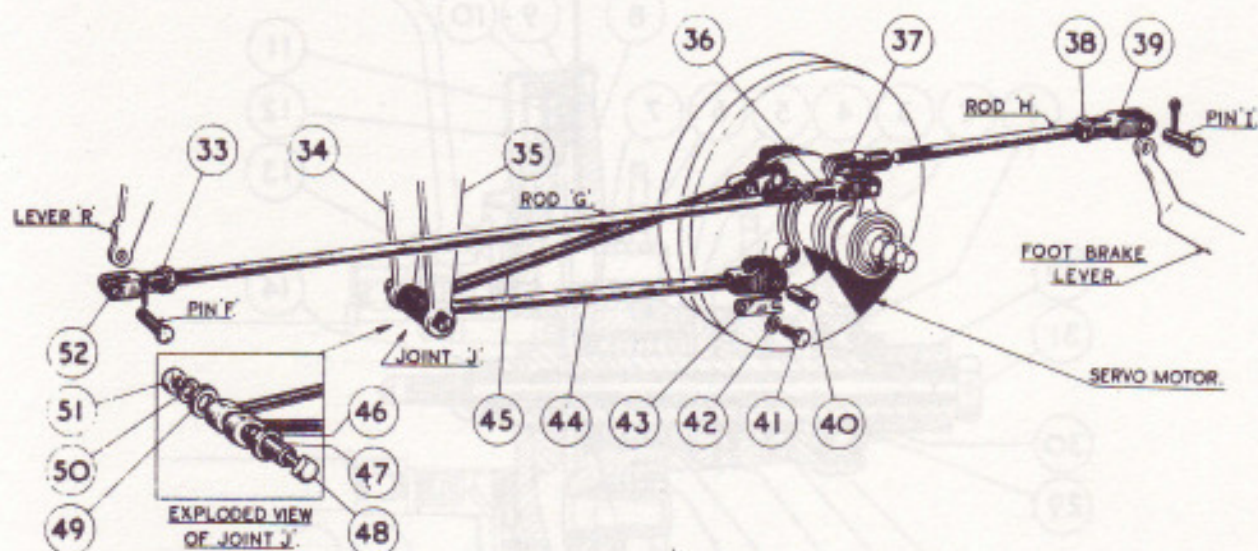
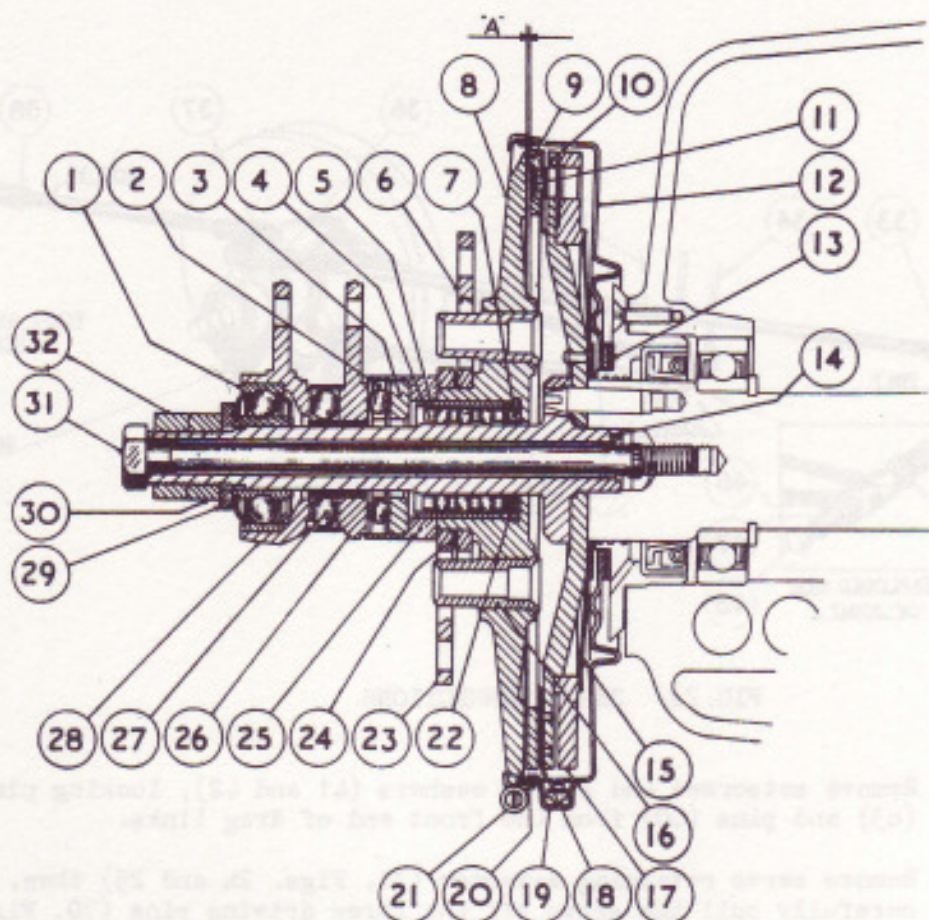
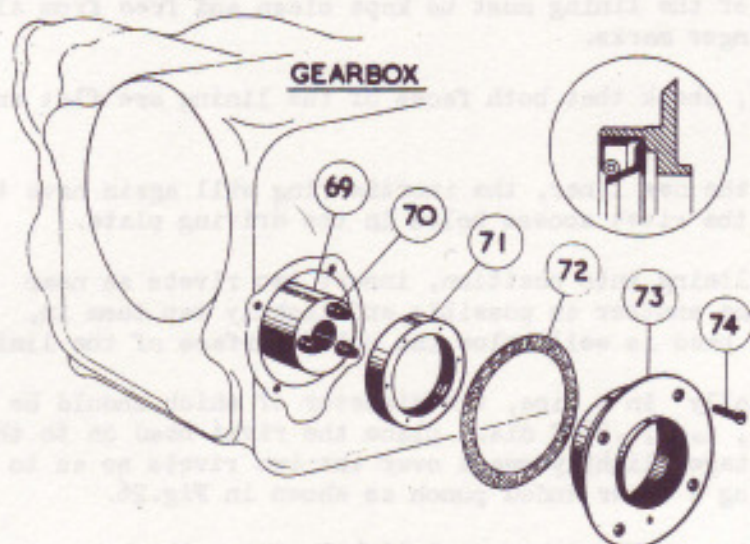

FIG. 22. SERVO CONNECTIONS.
FIG. 24. SECTION THROUGH SERVO.
FIG. 27. OIL SEAL AND HOUSING "EXPLODED" FROM THE GEARBOX. INSET, THE OIL SEAL IS SHOWN CORRECTLY ASSEMBLED TO THE HOUSING.
- (ii) Check for tightness locknut (38, Fig.22). Remove pin from jaw (39), and without disturbing position of jaw, screw out pull rod 'H' from jaw (37).
- (iii) Check for tightness locknut (33). Remove pin from jaw (52), and without disturbing position of jaw, screw out pull rod "G" from jaw (36).
- (iv) Remove bolt (48) from joint 'J' (see "Exploded view of joint 'J' on Fig.22), in order to release the rear end of drag links (44) and (45). This will allow servo to be rotated to the most advantageous position for uncoupling the front end of the drag links from the two inner servo levers, as follows:-
- (v) Remove setscrews and spring washers (41 and 42), locking plates (43) and pins (40) from the front end of drag links.
- (vi) Remove servo retaining setscrew (31, Figs. 24 and 25) then, carefully pull the servo off the three driving pins (70, Fig. 27), taking care not to damage phosphor-bronze spring plate (12), against the chassis cross member.
NOTE: No further dismantling of the driving plate sub-assembly should be required beyond the removal of the Ferodo friction lining. The nine small rivets securing the Belleville washer (15, Fig. 24) to the driving plate (10) must not be disturbed. Should the driving plate be accidentally dropped or bumped during the dismantling or erecting of the servo, the Belleville washer retaining the inertia ring (17) may spring back thus taking the load off the ring. This must be corrected by pressing with four fingers around the circumference of the washer until it snaps back into position against the inertia ring.
In the event of a housing (73, Fig.27) complete with an oil seal (71) not being available, then proceed as follows:
- (i) Remove the four countersunk screws (74) which secure the oil seal housing to the gearbox, then remove the housing.
- (iii) To fit a new oil seal, place the seal squarely on to the housing with the tip of the seal pointing away from the Acme thread (the insert in Fig. 27 shows the seal correctly fitted to the housing) and with the aid of a hand press, press the seal squarely into position.
- (iv) Fit a new Vellumoid joint (72) on to the housing.
- (v) Examine the outer end of the servo drive shaft (69, Fig. 27) for signs of roughness or grooving due to possible contact
- (a) Check that the inner race of the ball bearing (1, Figs.24 & 25) fitted to the outer lever (28) is a sliding fit on the servo shaft (14).
- (b) If the outer race (5), retaining washer (22) and felt washer (7) have been removed from the pressure plate, they should be replaced, fitted
Place the felt washer into the retaining washer and insert them into the pressure plate (see Fig. 24), then lightly press the outer ball race into position until it makes contact against the retaining washer.
- (c) Check that the servo shaft (14) is a sliding fit in its spigot, i.e. in the bore of the servo drive shaft (69, Fig.27).
- (d) With the driving plate (10, Fig.24) in position on the servo shaft, the three driving pins (70, Fig.27) as fitted to the servo drive shaft, must enter into the corresponding holes in the driving plate, and not interfere with the sliding fit of the servo shaft in its spigot.
- (ii) Place pressure plate (8) on to the shaft. Grease the ball cage (4) and then enter it into the ball race (5).
- (iii) Assemble the lever (6) on the pressure plate, placing it so that the inner radius of the lever will make contact with the "upper" operating pin as fitted to the pressure plate. Interposing the washer (24), assemble the second lever (23) so that the inner radius of this lever will make contact with the "lower" operating pin (16, Fig.24). The two levers must be a free fit on the spigot of the pressure plate and should be lightly oiled.
- (iv) Place thrust bearing and dust cover (sub-assembly 3 and 25) on to the spigot, i.e., the extension of the outer ball race (5).
- (v) Grease the ball cage (2) and place it on to the thrust bearing (3).
- (vi) Place inner lever sub-assembly (26) on to the bell cage (2), grease the recesses of the inner lever and replace the three .3125" dia. balls (27).
- (vii) Fit outer lever sub-assembly (1 and 28) on to the servo shaft, in correct relation with the inner lever (see Fig.22), followed by the plain washer (29) and the two nuts (30 and 32). Screw up together until approximately one thread of the servo shaft protrudes through the outer nut (32). Lock together temporarily in order to provide a means of rotating the shaft when assembling the servo motor to the gearbox. Remove servo shaft from the vice.
- (viii) Place driving plate sub-assembly (10) on to the servo shaft, then fit the spring plate (12) to the pressure plate (8), ensuring that the tab of the spring plate engages in the single lower slot in the pressure plate.
- (ix) Place protector (20) in position as follows, take care not to distort protector while fitting it:
With the spring anchored to both ends of the protector, place the protector over the spring plate and pressure plate in such a way that the spring is at the bottom and in line with the drain (19, Fig.24). "Smooth" and manoeuvre it into position by pressing with the thumb and finger round the circumference until the whole of it is in position.
- (i) Place the Ferodo sealing washer (13, Figs.24 and 25) in position on the gearbox, with the VG 100 face (black coloured) facing towards the servo.
- (ii) If due care is not taken while fitting the servo motor to the gearbox, it is possible that although the driving plate (10) has correctly engaged with the three driving pins (70, Fig.27) of the servo drive shaft (69), the flange of the servo shaft (14) may not have engaged with the driving pins. Therefore, the servo retaining setscrew (31, Fig.24) must not be fitted, until the servo shaft is fully engaged with the driving pins, or the flange might be clamped against the ends of the pins.